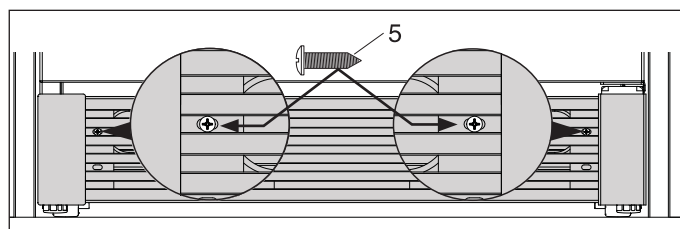

Figure 2-30.
(Single Unit) Attach the kick plate to the cabinet with two (2) screws. (See Figure 2-30)